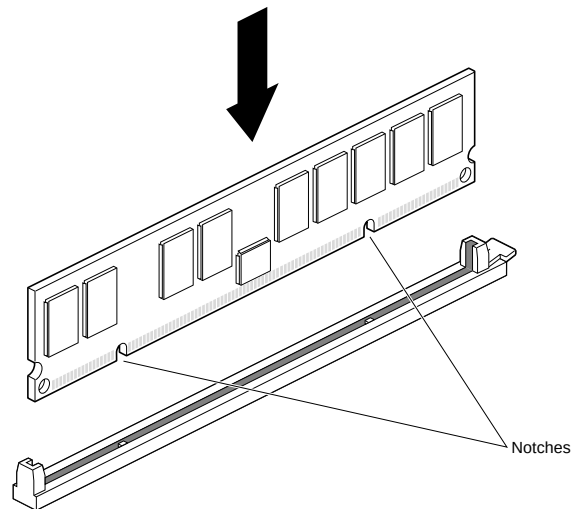

Figure 2-4 (Octane) Host DIMM Installation
- 1.) Insert the DIMM into the socket, gently but firmly. You can hear a click as it is seated, and the latch on the end of the socket will move up. DIMMs are notched on the bottom so that they cannot be inserted incorrectly. See Figure 2-4.